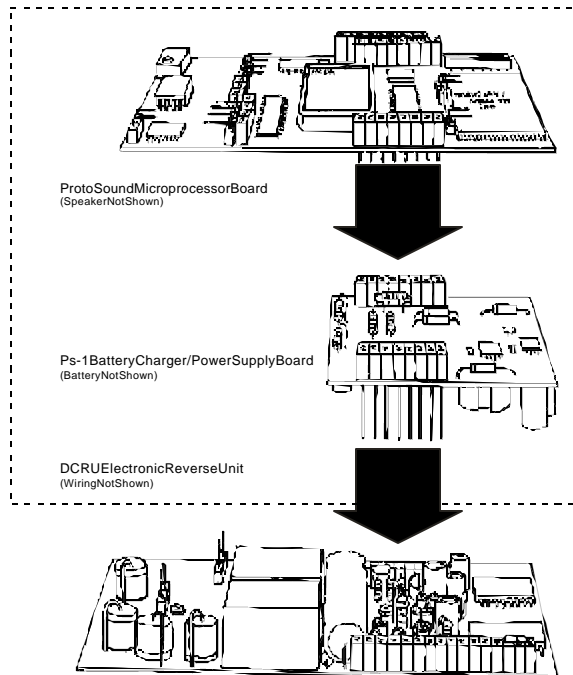

Figure 10: The ProtoSound Digital Sound & Train Control System
with both hands, one hand on each side of the boards. You should hear a snap from each side as the two boards go together. The PS-1 board should sit just above the reverse unit as shown in Figure 10. If you are having difficulty, separate the PS-1 board from the ProtoSound board and press together as shown in Figure 16.
5) If you separated the ProtoSound board from the PS-1 board, carefully press the ProtoSound top board into the socket pins on the PS-1. This should also be a snug fit, but a little easier to insert since the socket holes were already spread. Make sure that the ProtoSound board is correctly positioned since it can be inserted incorrectly in the socket in a backwards position (rotated 180°). The ProtoSound board is in the correct position if the ProtoSound board lines up with the DCRU reverse unit as shown in Figure 10. Also watch to see that all the connector pins are in their own socket; *you do not want the ProtoSound board to be offset by one or two pins since this would cause damage to the circuit board.*